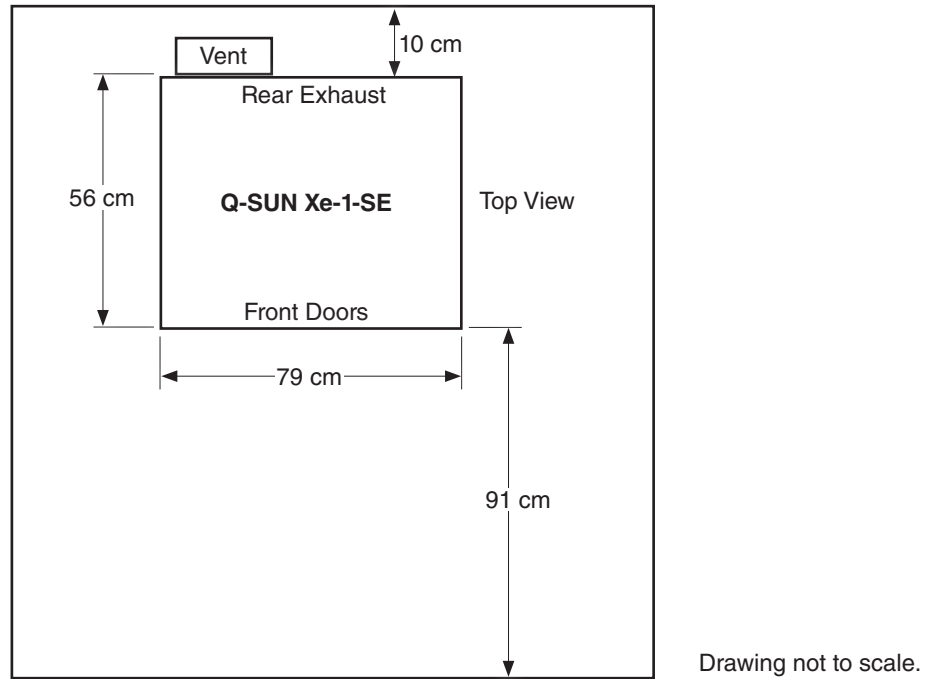

Figure 6.1a: Q-SUN Xe-1-SE minimum clearance and counter space requirement.
- Figure 6.1a shows external dimensions and space requirements.